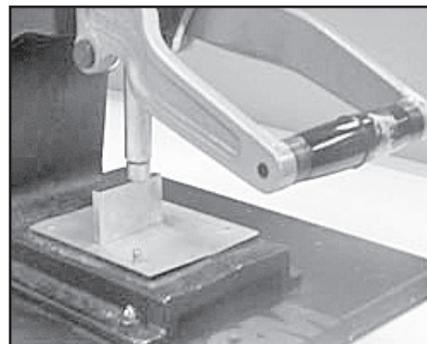

Figure 2
- 3.3 Lower the handle of the press until the handle casting makes contact with the press casting. (Figure 2)
- 3.4 Place the shut height gauge across the press base. (Figure 2)